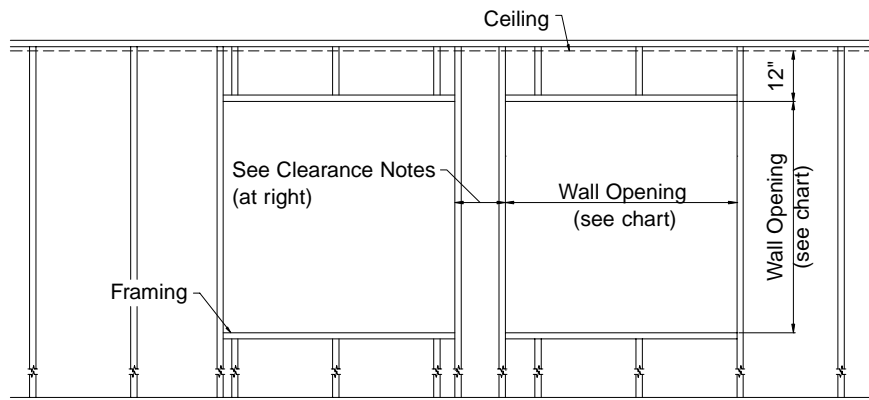

Figure 1
- 1) Construct the framed opening to correct size according to the above chart and your fan size. *See Figure 1.*